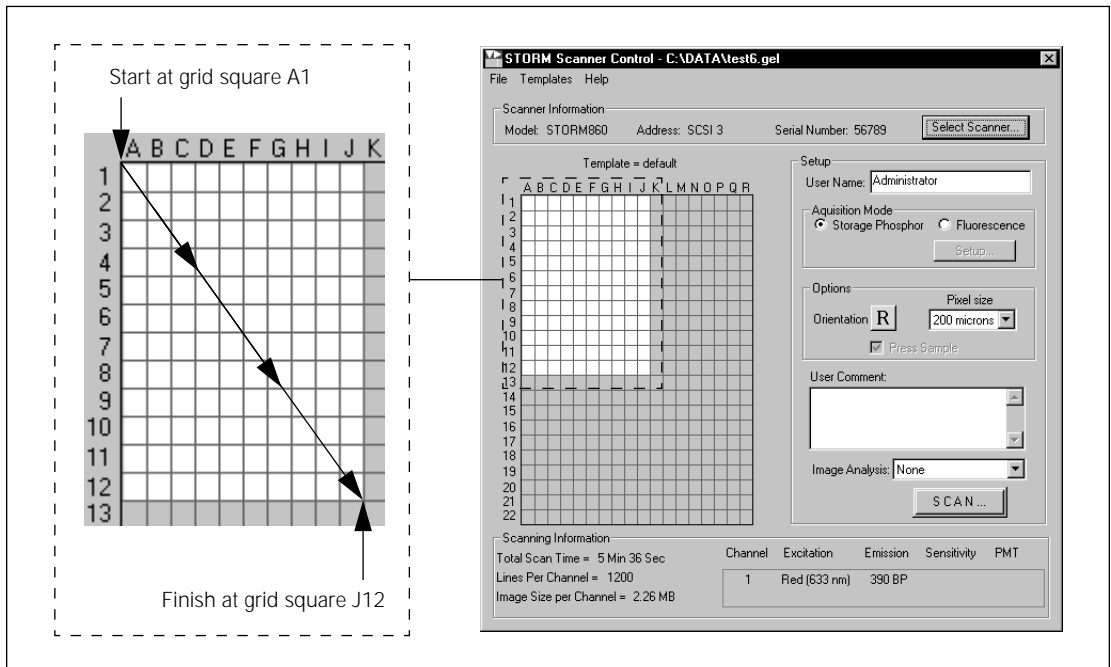

Figure 6-6. Selecting the scan area.
2. Drag the pointer to the grid square corresponding to the lower right corner of the area you want to scan (figure 6-6).